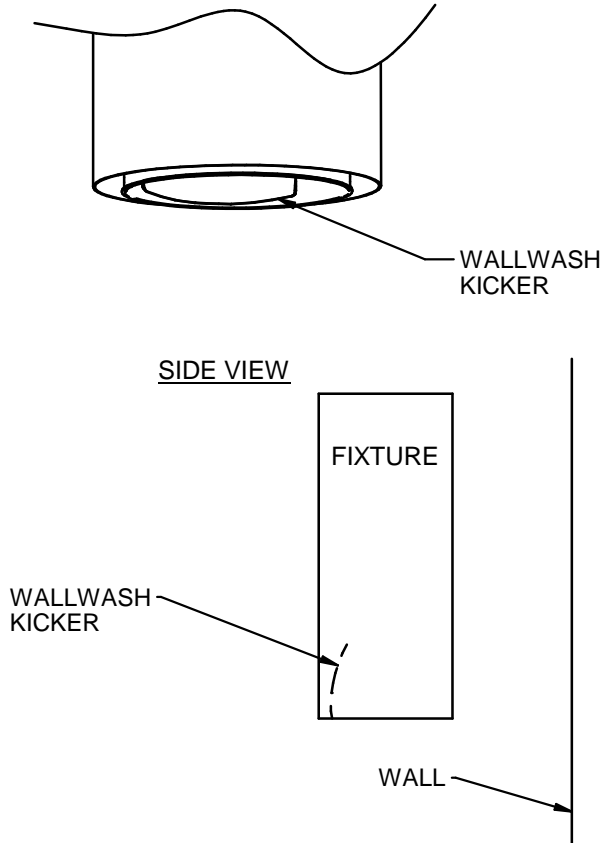

Fig. 9
13. Wallwash units need to be aimed. The wallwash kicker needs to be facing the wall on the opposite side of the fixture from the wall. Note the final orientation in (Fig. 9). Provisions for aiming the fixture are provided by others.